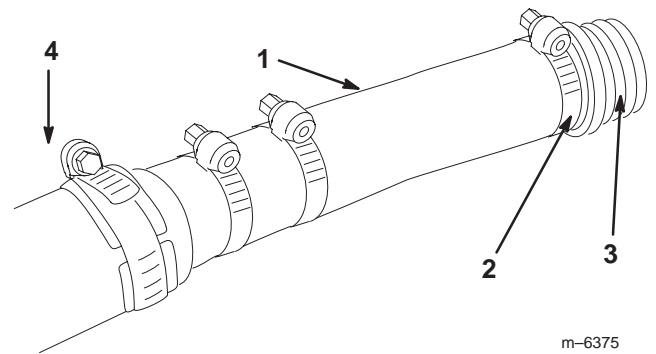

Figure 10
5. Slide a large ratcheting hose clamp (removed from the hose in step 2) over the hose and install the fitting all the way into the hose, securing it with the hose clamp (Fig. 10).